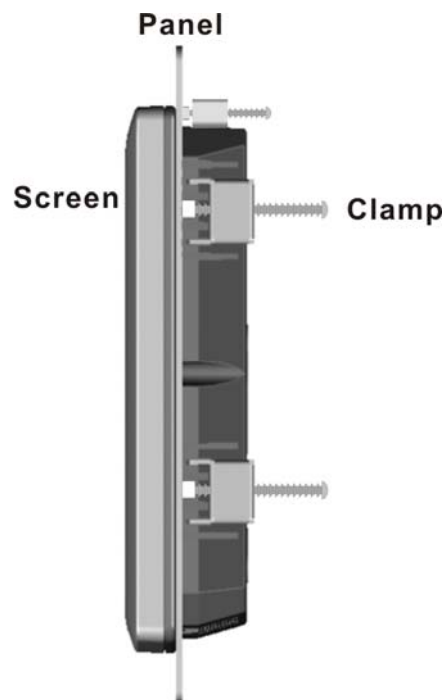

Figure 3-8: Tighten the Panel Mounting Clamp Screws
- Step 5:** Tighten the screws that pass through the panel mounting clamps until the plastic caps at the front of all the screws are firmly secured to the panel (**Figure 3-8**).